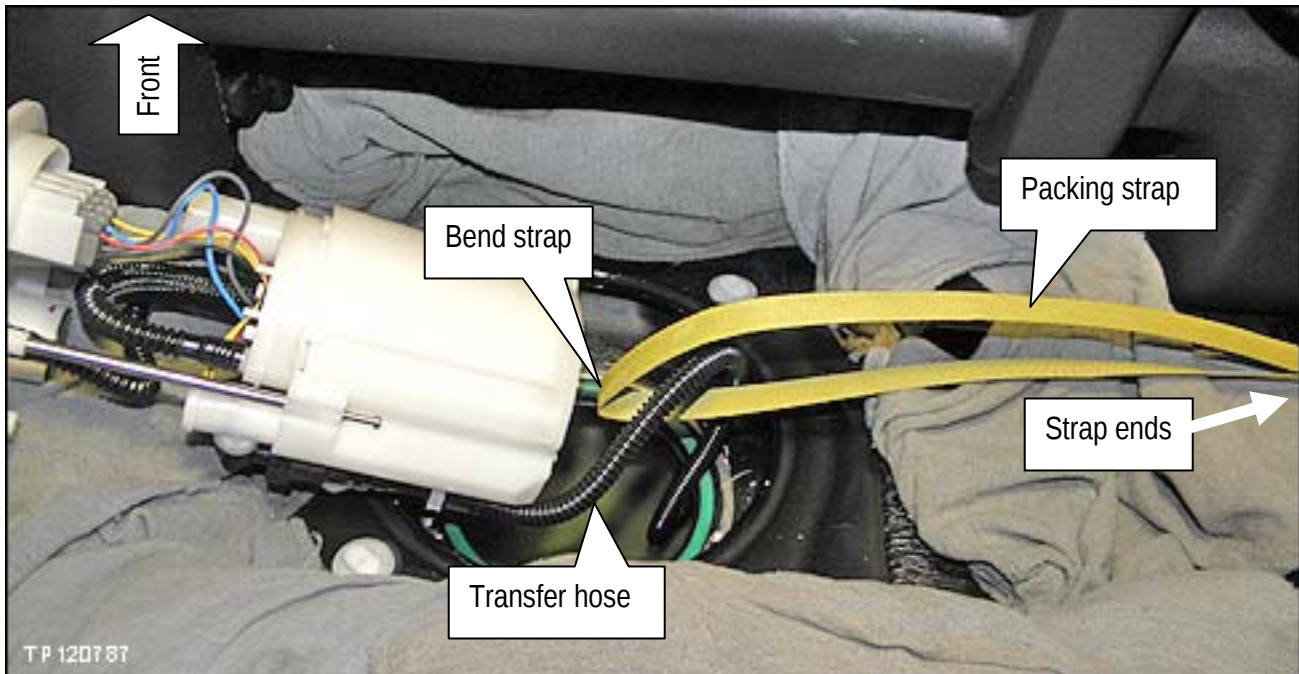

Figure 19
- c. Loop the packing strap around the transfer hose as shown in Figure 19.